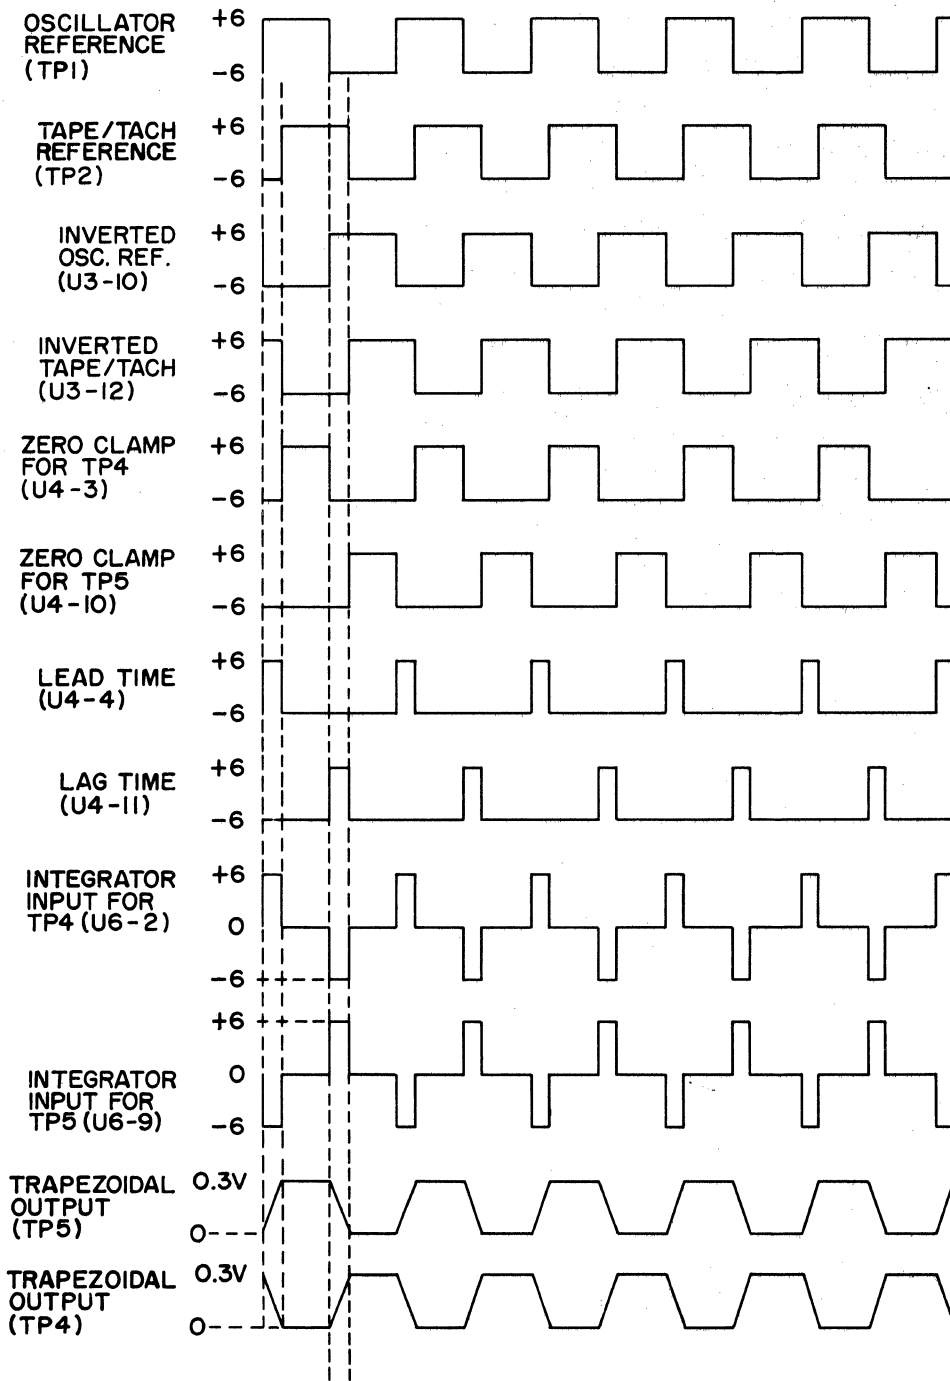

Figure 11-2. Typical Phase Comparison Waveforms (804889)
Both the oscillator (TP1) and the tape/tach (TP2) reference signals are applied to the phase comparison circuits located on the capstan B board. This circuit consists of U3, U4, U5, U6, U8, U9, and associated circuitry. For the following discussion, refer to Figure 11-2. The function of this circuit is to use the two input reference signals to develop trapezoidal waveshaped (typical) signals as shown for TP4 and TP5. The two trapezoidal signals are 180 degrees out of phase with one another and of nearly equal amplitude. These two signals are summed together with the resultant being a dc voltage proportional to the phase difference between the two reference signals. As can be seen in the figure, the voltage value, when summed, is 15 vdc or 1/2 the maximum voltage level. The amplitude changes whenever the error between the oscillator and tape/tach reference signals changes. When the phase error increases the rise and fall time of each signal is longer allowing for a higher voltage to result. To understand the development of each trapezoid signal, four separate time periods must be considered; (1) rise time, (2) voltage hold time, (3) fall time, and (4) zero clamp time.